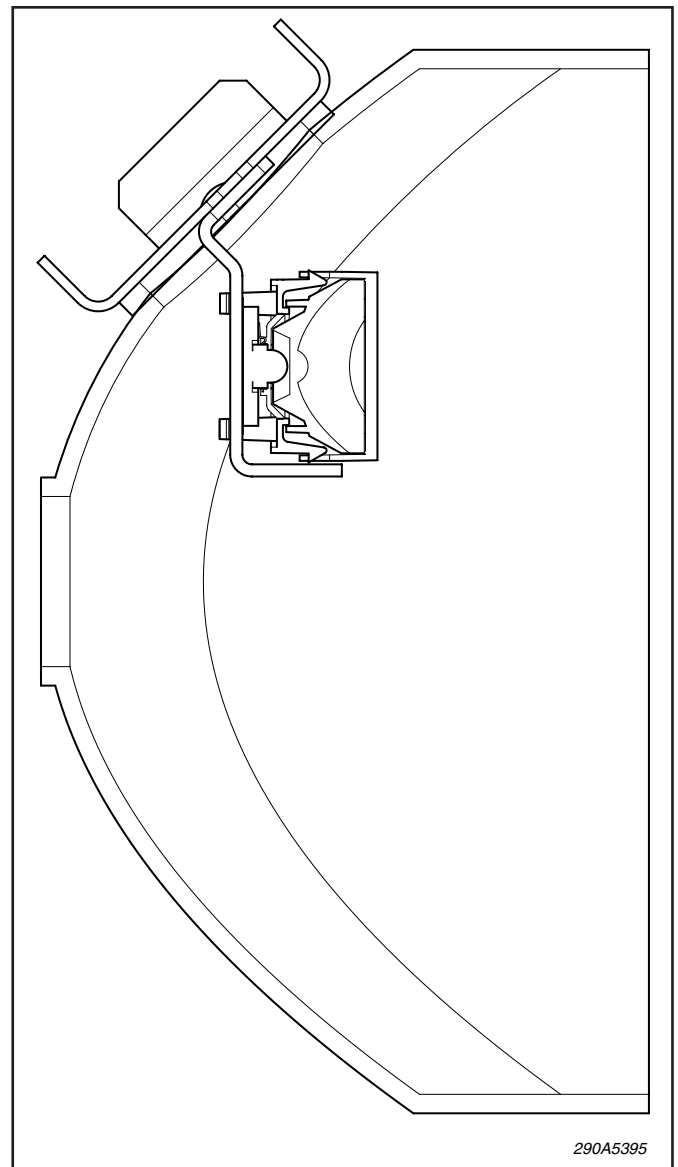

Figure 2.
4. See figure 2. Position the LED light head as shown and mark the two small holes. Drill the two small holes with a 5/32" drill. Deburr all the holes then thoroughly clean the housing to remove all chips.